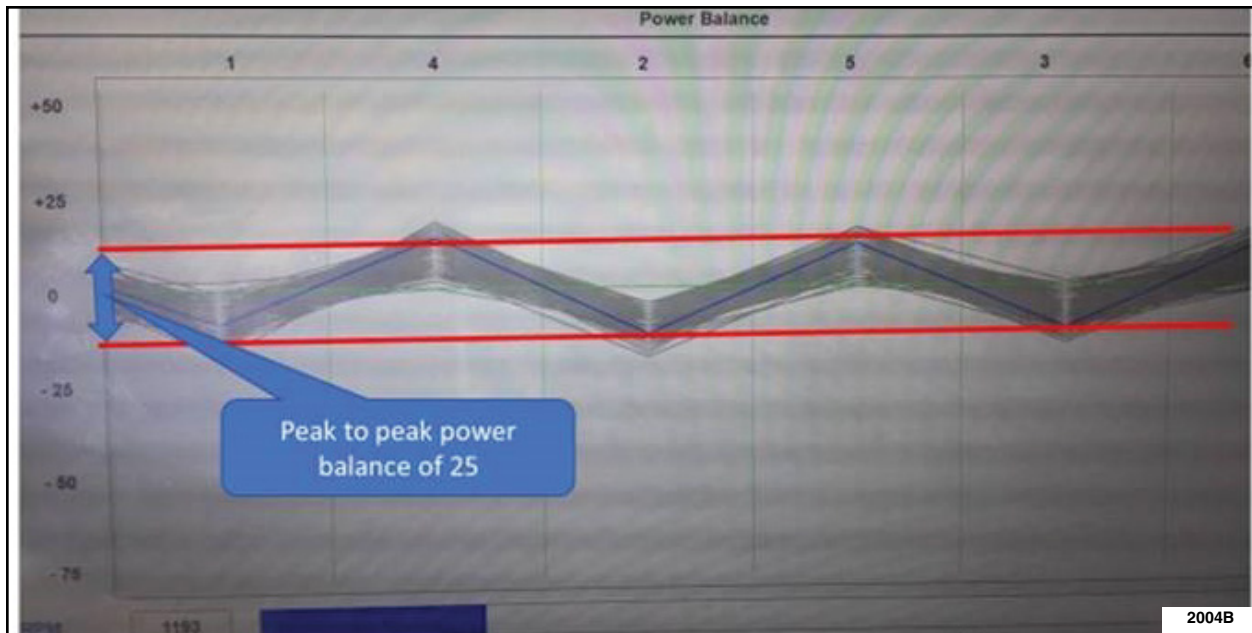

FIGURE 2
15. Was a shudder noticed? See Figure 2.